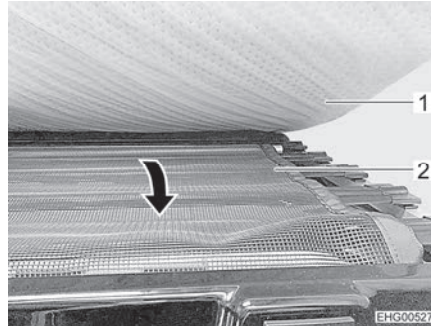

Fig. 50 Safety net
- Pull out the safety net (Fig. 50,2) from under the mattress (Fig. 50,1) and stretch it over the access orifice.